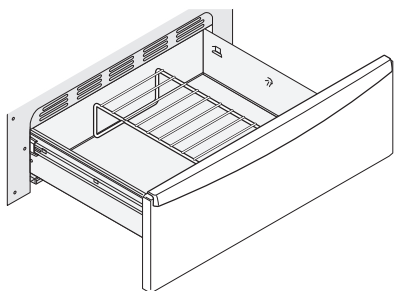

Figure 32: Upright position
- In the upright position (See Figure 32) to allow low profile food items to be placed both under and on top of the rack (for example, rolls or biscuits on top of the rack and a casserole dish underneath).